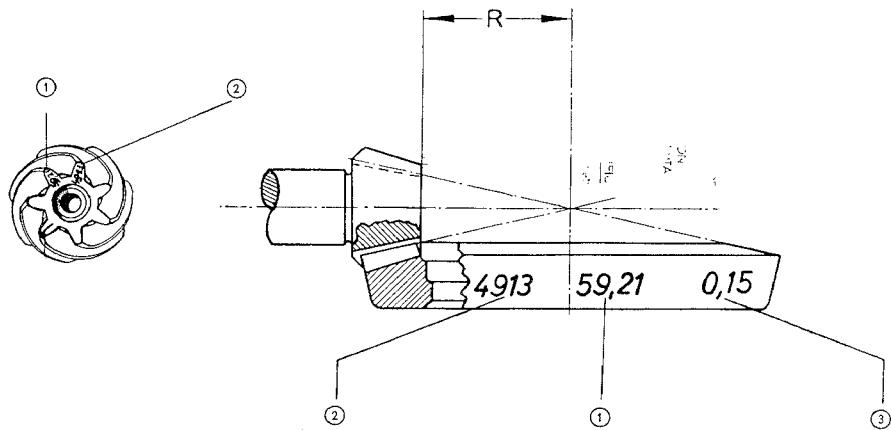

Fig. 96
i.e. the pinion has to be moved 0.14 mm towards the center axis of the ring gear. Disassemble pinion and insert required shims on pinion shaft (Fig. 96, 97, 98).